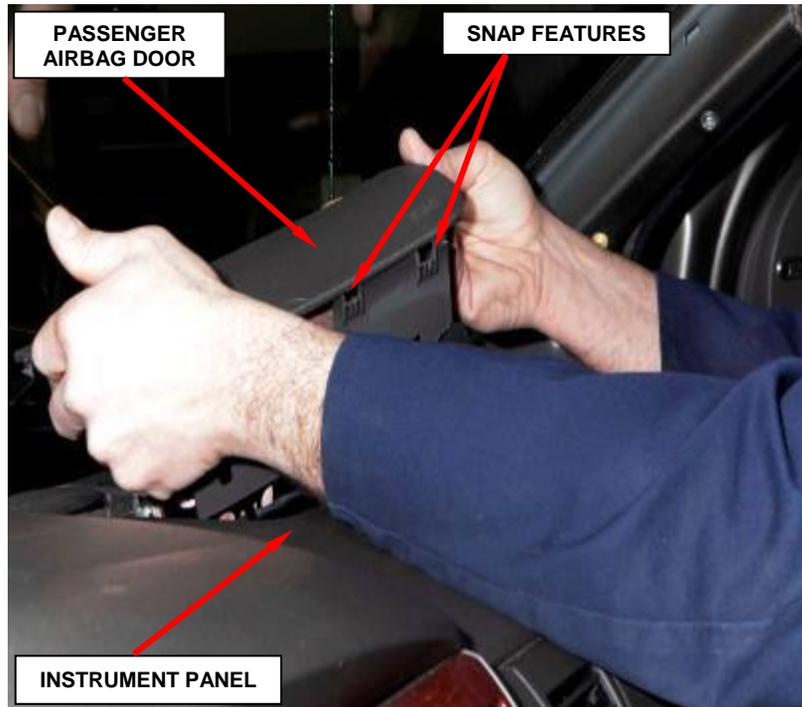

Figure 32 – Passenger Airbag Door
4. Using a trim stick or another suitable wide flat bladed tool, gently pry the forward and side edges of the passenger airbag door away from the top of the instrument panel far enough to disengage the snap features on the airbag door from the receptacles in the instrument panel top pad (Figure 32).
10. Carefully lower the passenger airbag unit into the instrument panel, being certain that the airbag mounting bracket is properly positioned to the instrument panel support structure (Figure 32).